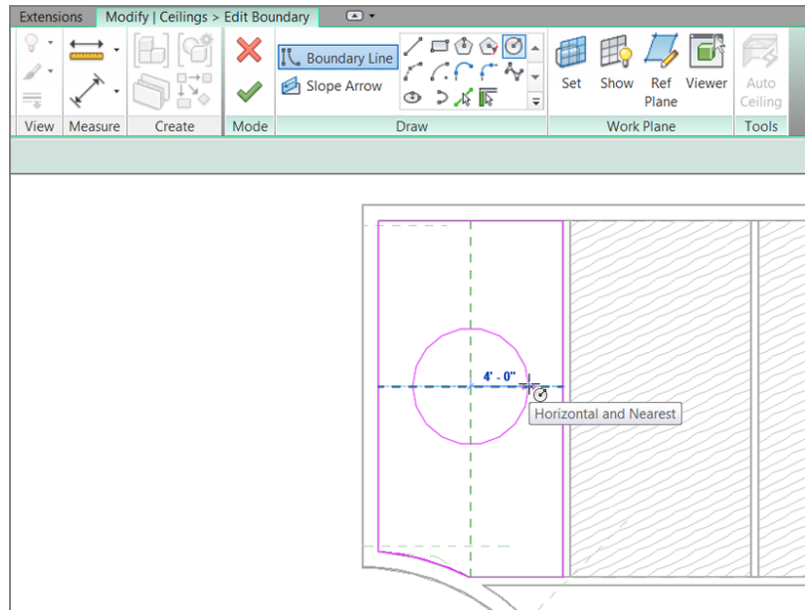

FIGURE 9.22: Sketching a 4'-0" (1200mm) radius circle
7. On the Draw panel, click the Boundary Line button. You see an expanded list of sketch choices. Pick the Circle choice, as shown in Figure 9.22.
8. Draw a 4'-0" (1200mm) radius circle at the intersection of the reference planes (see Figure 9.22).